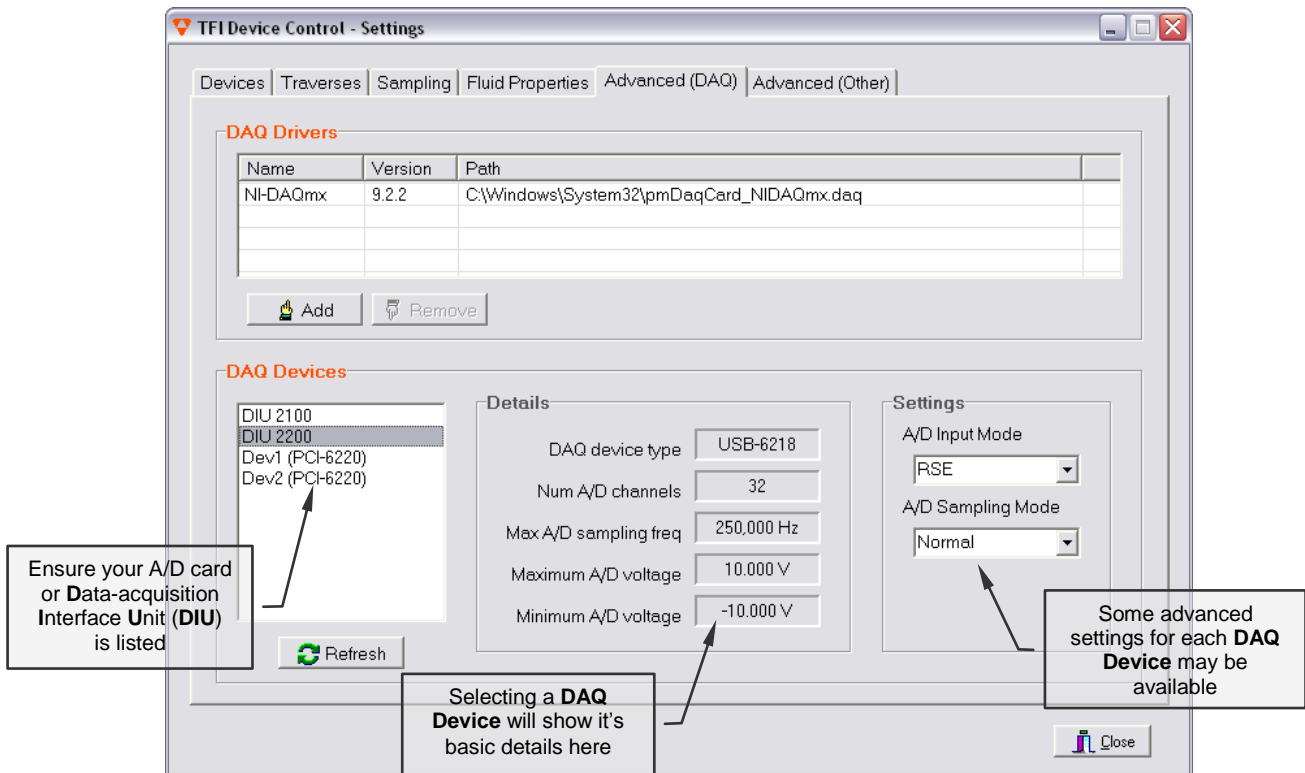

Figure 4: Software configuration – Checking/Selecting the Interface Unit
- Select **Advanced (DAQ)** from the **Settings** menu, then refer to Figure 4 below
- ❗ For DAQ devices that use a common input voltage range for all channels (e.g. some Data Translations A/D cards) it will also be necessary to choose the appropriate input voltage range on the **Advanced (DAQ)** tab (this is not shown above in Figure 4 but will appear if such a DAQ device is selected).
- i** For cards that use a common input voltage range for all channels, the **A/D Input Range** is set on the **Advanced (DAQ)** tab (see Figure 4).